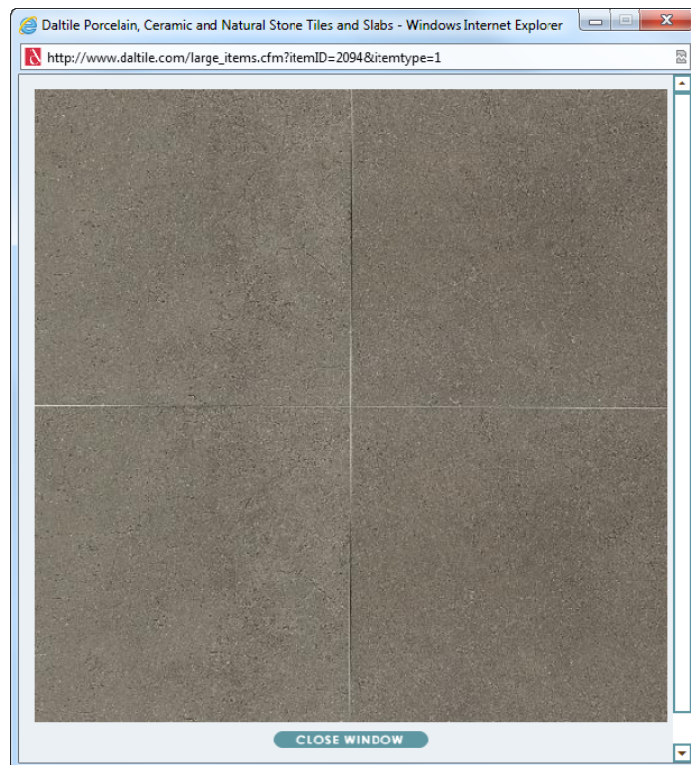

FIGURE 4-3.23 Large preview image from Dal Tile website
96. Select the small preview image to open a larger review image (Figure 4-3.23).